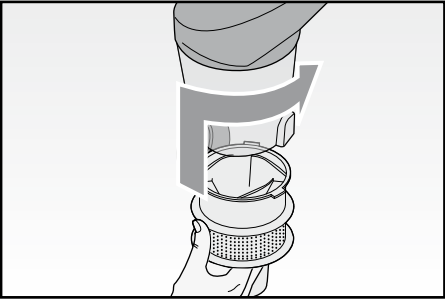

Fig. 10
- Before using the appliance again, reassemble the container (A).
- Place the filter inside the container (A) and lock it into place by turning it anticlockwise (Fig. 10).